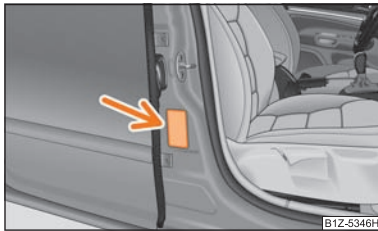

Fig. 143 Sticker on the centre column of the body on the front passenger side.
- This is also clearly stated on the sticker which is located on the centre column of the body on the front passenger side ⇒ **fig. 143**. The sticker is visible upon opening the front passenger door. For some countries, the sticker is also affixed to the sun visor of the front passenger.